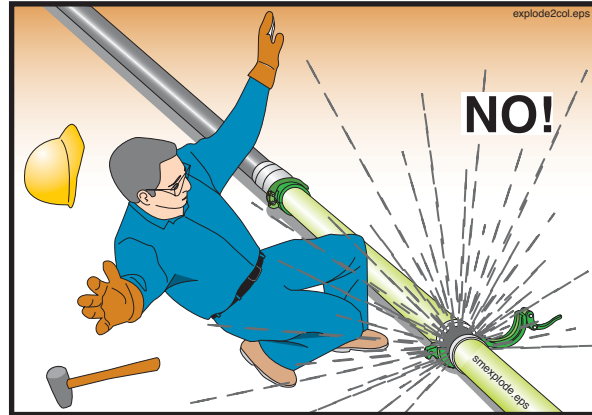

Figure 63
- **The pipeline must not be disassembled until it has been completely relieved of air.** Be sure of this! (See Figure 63.)